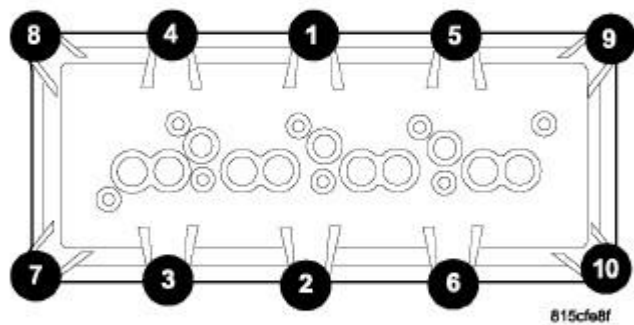

Fig. 89: 5.7/6.1L COVER TORQUE SEQUENCE
3. Tighten cylinder head cover bolts and double ended studs to 8 N.m (70 in. lbs.) in the sequence shown in **Fig. 89**.